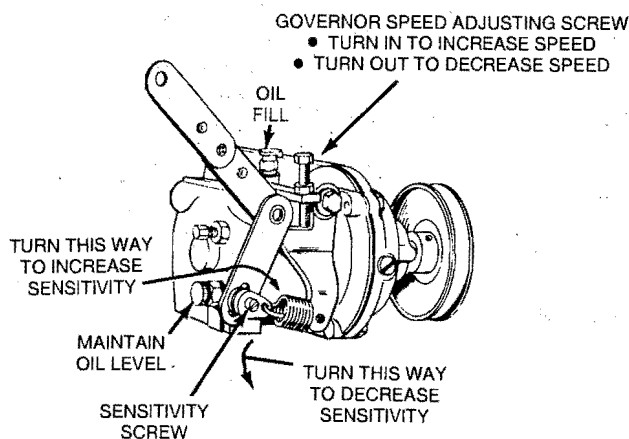

FIGURE 18. GOVERNOR ADJUSTMENT
9. **Governor oil level** — Keep even with bottom of the oil level plug (refer to Figure 18). When adding oil to the governor, the oil should just start to flow out of the oil level plug hole. Do not overfill. Use a good grade engine oil of 10W-30 multiviscosity.
The governor controls the speed of the engine and, therefore, the generator output frequency (Figure 18). Engine speed also affects AC output voltage. Use either a tachometer or frequency meter to check engine speed for proper governor adjustment.